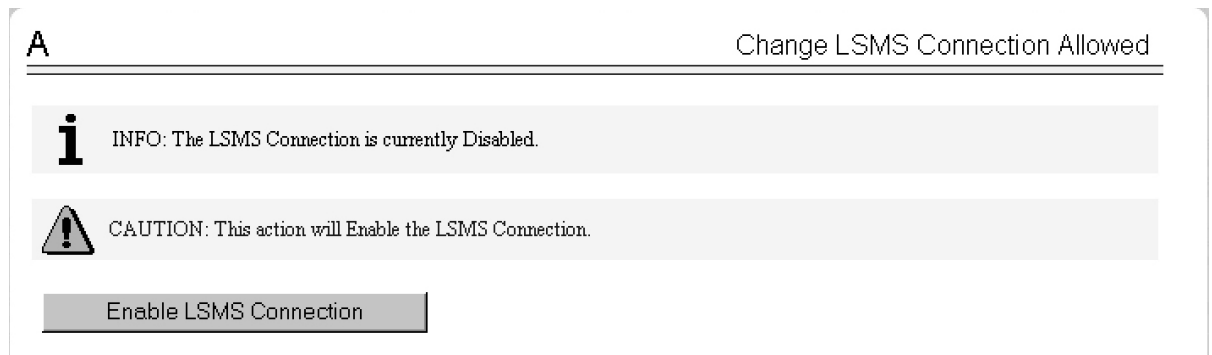

Figure 22: Enable LSMS Connection Window
- l) Select **Maintenance>LSMS Connection>Change Allowed**: a window similar to the example shown in Figure 22: Enable LSMS Connection Window displays.
- f) Select **Maintenance>LSMS Connection>Change Allowed**: a window similar to the example shown in Figure 22: Enable LSMS Connection Window displays.